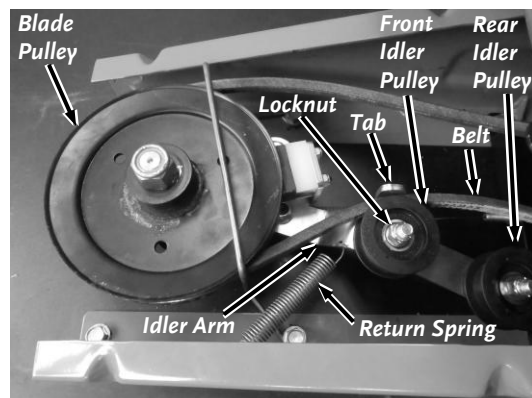

Figure 35
2. Unhook the end of the return Spring where it attaches to the Idler Assembly (**Figure 35**).
10. Move the Belt to the inside of the rear Idler Pulley (**Figure 35**).